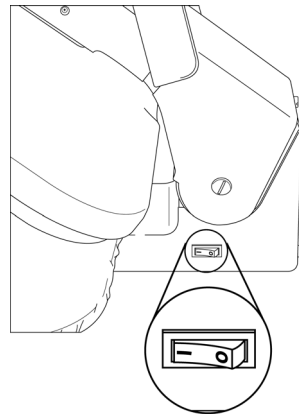

FIGURE 1
1. With Pressing Plate in lifted position, plug power cord into electrical outlet, and set On/Off Switch to “On” (I) position (FIGURE 1).
IMPORTANT: Auto Shut-Off does not mean that power to the unit is totally cut off. Power is always on, and the Power Indicator Light will remain illuminated until On/Off Switch is set to “Off” (O) position (FIGURE 1, page 6).